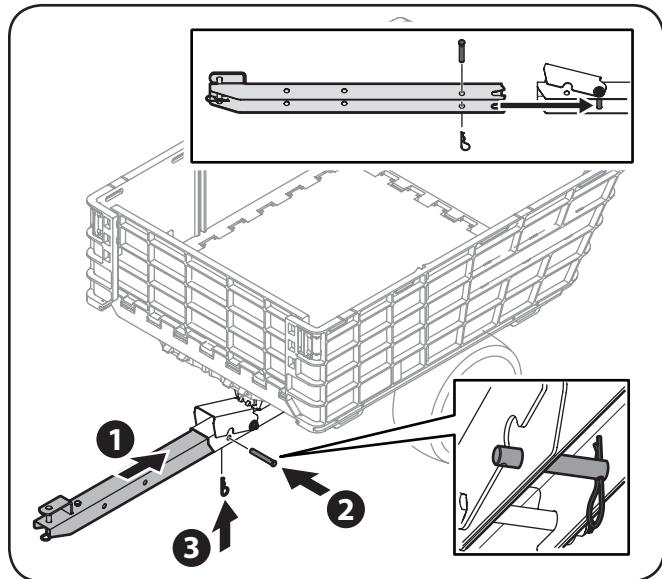

Figure 3-9
12. Remove the clevis pin and the cotter pin from the tongue bracket. See the inset in Figure 3-9
13. Slide the tongue assembly into the tongue bracket as shown in Figure 3-9. Line up the rear-most hole with the hole in the tongue bracket and insert the clevis pin through the tongue assembly and the tongue bracket. Secure the clevis pin with the cotter pin as shown in Figure 3-9.
14. Be sure that the clevis pin is installed on the interior of the tongue assembly and the tongue bracket as shown in the inset in Figure 3-9.